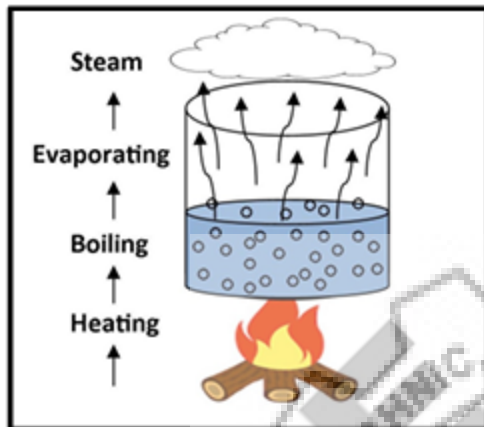

Figure 2.1 Steam generation
**Key Diagrams to Study:** Fig. 2.1 to Fig. 2.16 – Steam generation, formation processes, T - h diagrams, p - h diagrams, P - T diagrams, T - v diagrams, Mollier chart, and various calorimeters.
Refer to Fig. 2.1: Steam generation